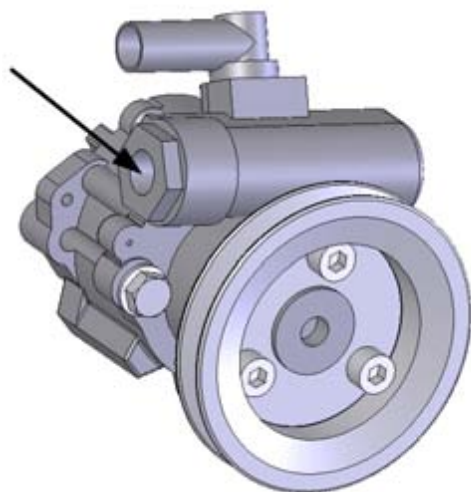

Figure 54. Hydraulic pump pressure relief valve
2. Open the adapter nut (figure 54)